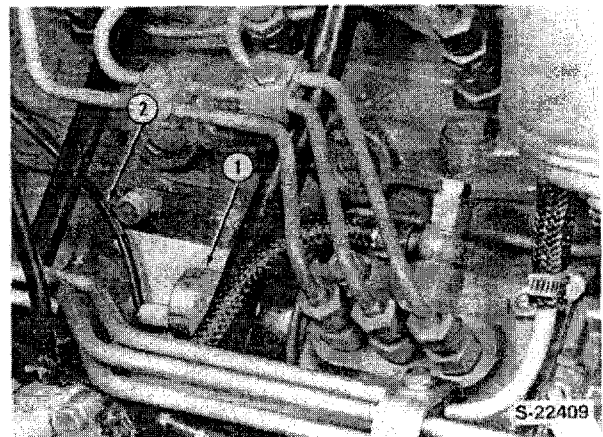

Figure 101
The injection pump is equipped with a fuel stop solenoid (1), Figure 101. The solenoid plunger is spring loaded so that when the solenoid is not energized the plunger pushes the injection pump control rack forward into the closed (shut-off) position. When the solenoid is energized as when the key switch is turned to the "ON" and "START" positions the solenoid plunger is retracted and the governor linkage moves the pump control rack rearward into operating position.
Reference — Figure 101